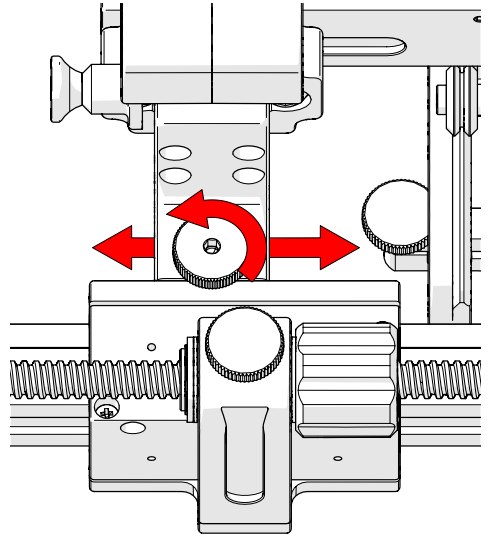

Fig. 227 - Mount to slider pps
3. Loosen the knob to position the probe holder horizontally along the slider pps slider (Fig. 227). Tighten the probe holder adjustment knob when positioning is complete.